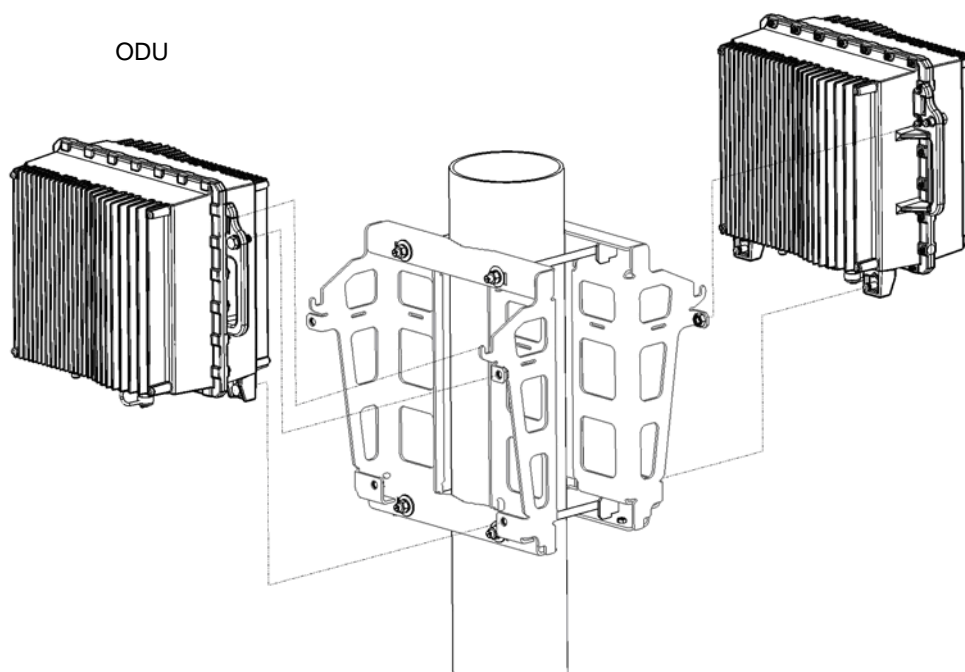
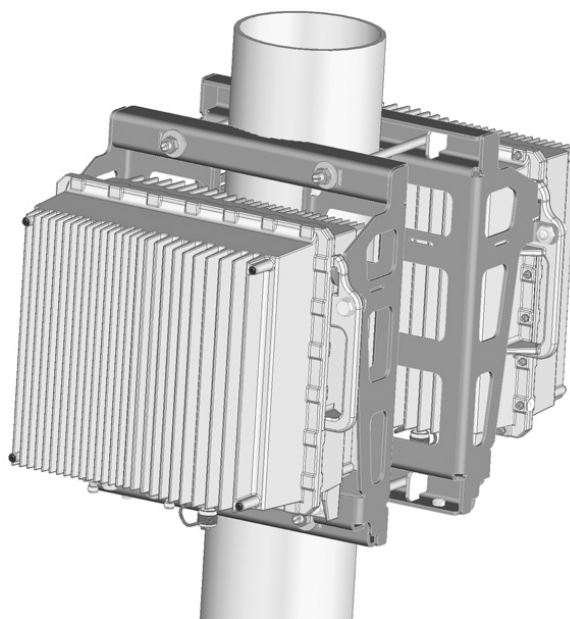

Figure 5: Mounting the Two ODUs
Figure 6: Two ODUs Mounted on the Pole
- 7 Hang the ODUs on the carriages and tighten the M10x30 screws (Figure 5 and Figure 6). Apply torque of 20 [N*m] (177 [lbs*in]). It is recommended to use a harness to lift the unit when hanging it on the carriage.